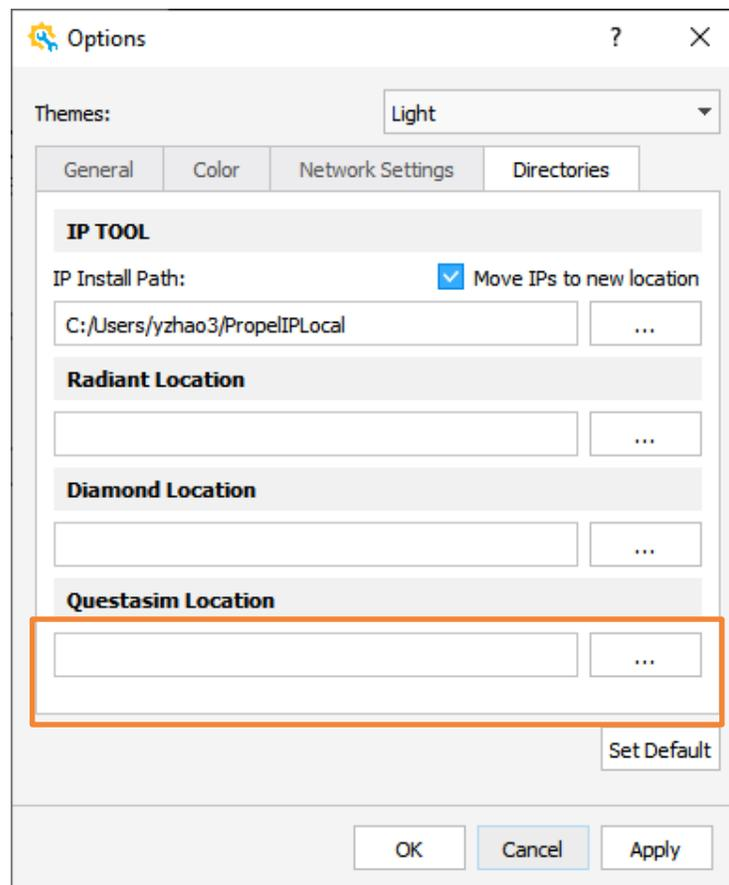

Figure 2.73. Builder Options Wizard
**Note:** Before launching simulation, you can change Simulator to Questasim by clicking **Design > Options** from the Builder Menu bar. Builder Options Wizard opens (Figure 2.73). Click **Directories** to set a desired Questasim Location.